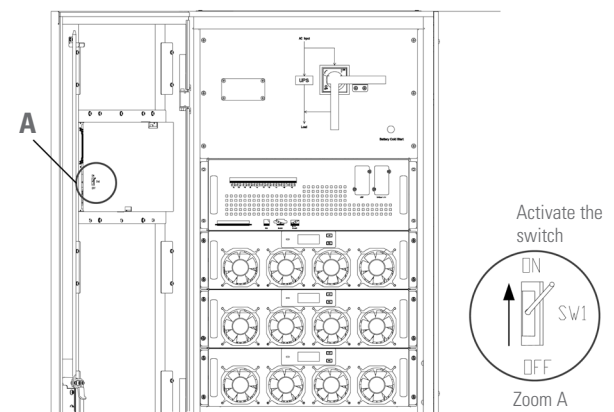

Fig. 62. Activation of manual transfer from Normal mode to Bypass mode.
- Press the BYP button on the control panel for more than two seconds and the system will transfer to Bypass mode. This requires the activation of the switch located behind the front door, as shown in Fig. 62.